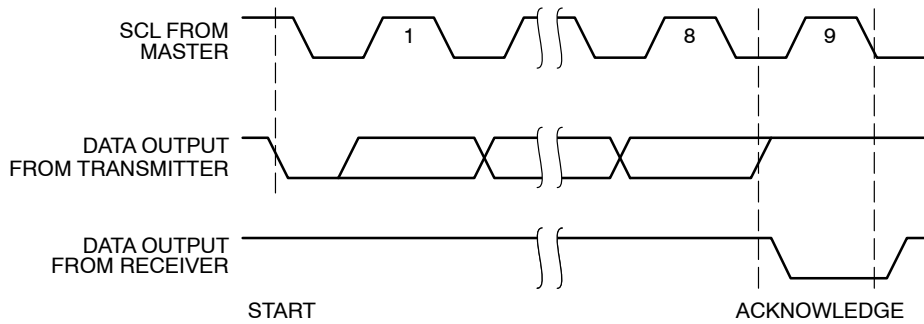
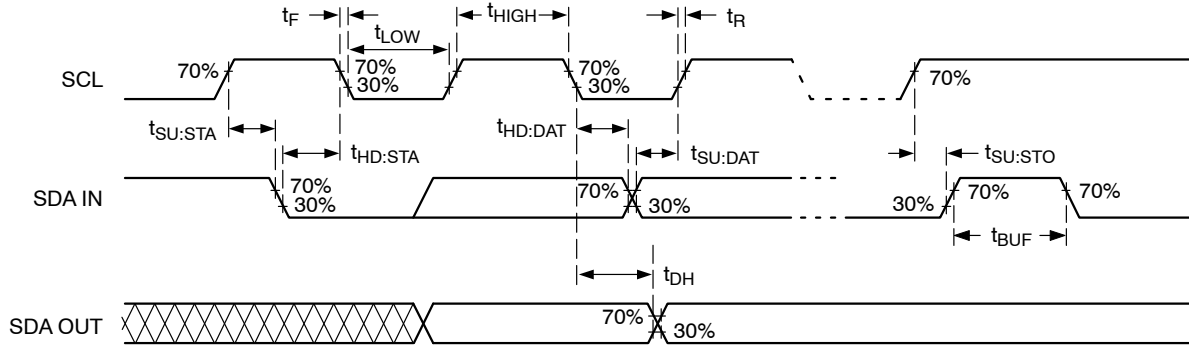

Figure 4. Acknowledge Timing
Figure 5. Bus Timing
5. Timing reference points are set at 30%, respectively 70% of  $V_{CC}$ , as illustrated in Figure 5. Bus loading must be such as to allow meeting the  $V_{IL}$  and  $V_{OL}$  as well as all other timing requirements. The minimum clock frequency of 10 kHz is an SMBus recommendation; the minimum operating clock frequency is limited only by the SMBus time-out. The device also meets the Fast and Standard I2C specifications, except that  $T_i$  and  $t_{DH}$  are shorter.
A matching Slave address is acknowledged (ACK) by the Slave by pulling down the SDA line during the 9th clock cycle (Figure 4). After that, the Slave will acknowledge all data bytes sent to the bus by the Master. When the Slave is the transmitter, the Master will in turn acknowledge data bytes in the 9th clock cycle. The Slave will stop transmitting after the Master does not respond with acknowledge (NoACK) and then issues a STOP. Bus timing is illustrated in Figure 5.